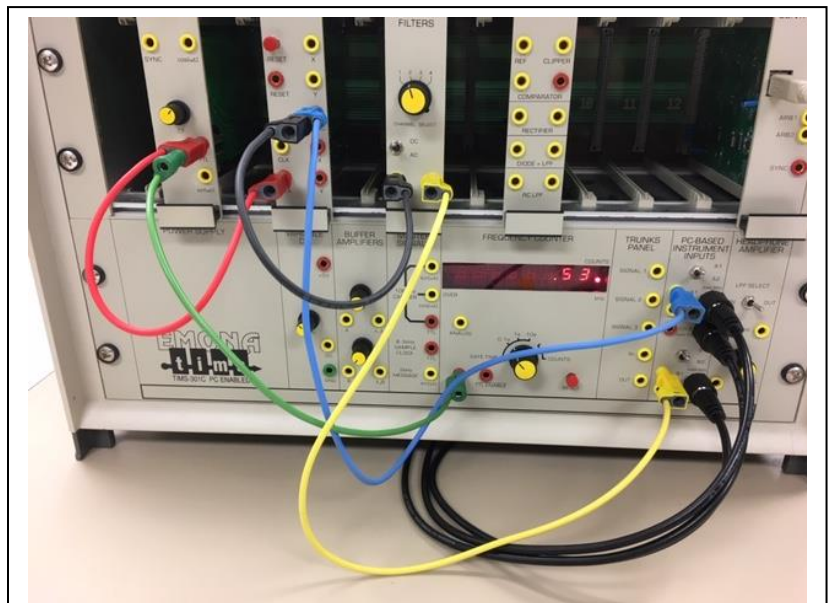

Fig 20 Configuration to view simulated impulse response.
5. Connect the SEQUENCE GENERATOR Sync output to the BASEBAND CHANNEL FILTERS input, and the BASEBAND CHANNEL FILTERS output to Scope ChB. See Figure 20.